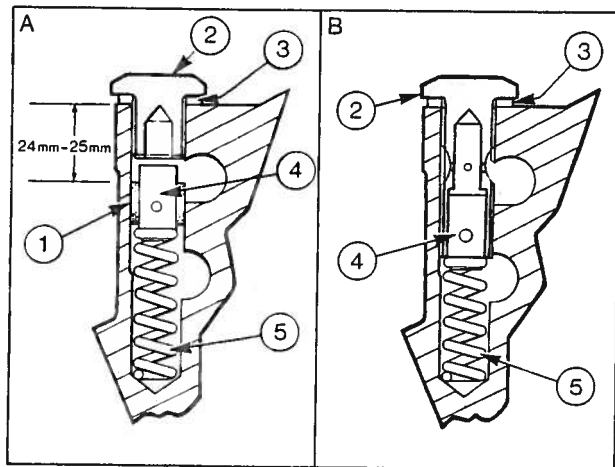

Fig. 19 Oil pressure relief valve (shown partly open)
On engines built after January 1978, the oil pressure relief valve sleeve and valve retaining cap are combined; check the internal bore of the sleeve for wear and, if necessary, renew the combined plug and sleeve – see Fig. 19.
2. After ensuring that the sealing washer is clean and undamaged, lightly smear the oil pressure relief valve with clean engine oil and assemble the valve components to the block – see Fig. 19. Tighten the plug to the specified torque (see Specifications).